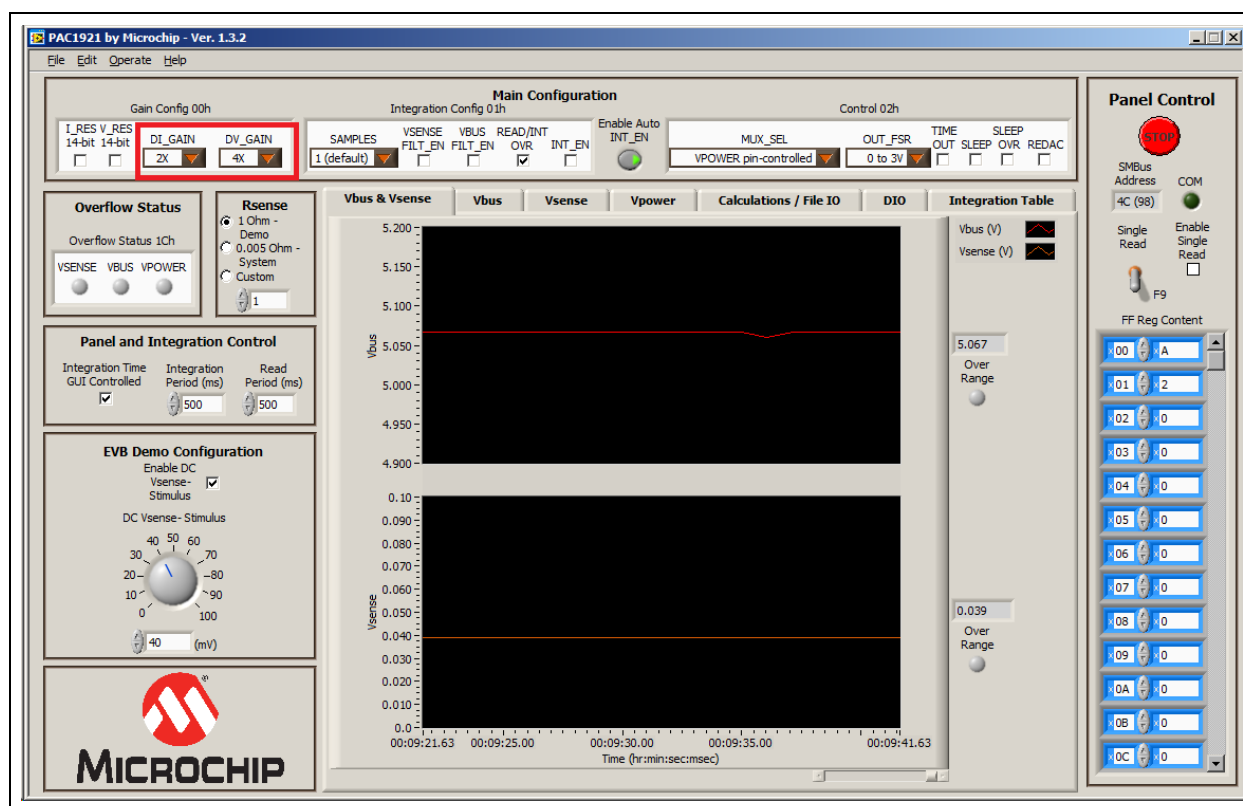

FIGURE 4-20: Pin-Controlled Integration with Gain.
- To see the effects of gain, change “DI_GAIN” to 2X and “DV_GAIN” to 4X in the Gain Config 00h section, as shown in Figure 4-20.